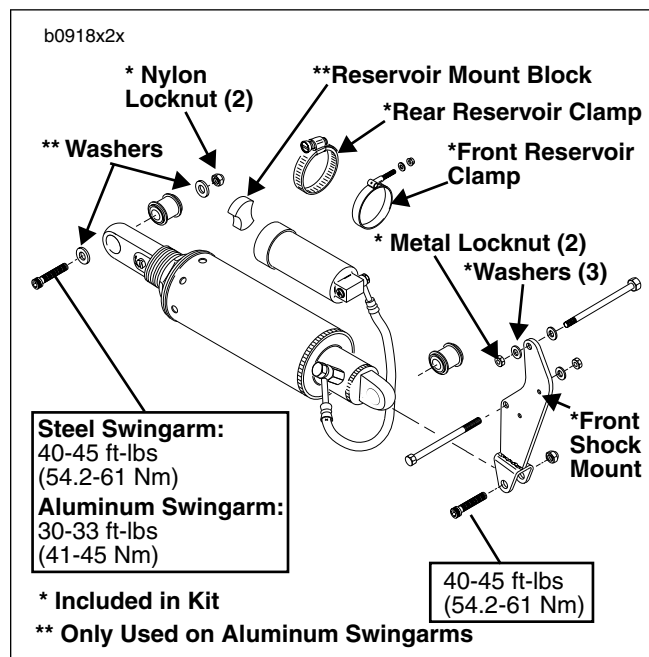

Figure 2. New Shock Absorber Assembly
5. See Figure 2. Use a flex socket and extension to remove locknut and washer from front reservoir clamp. Discard clamp, locknut and washer.
6. See Figure 2. Loosen rear reservoir clamp. Slide reservoir and mount block out of clamp. Remove and discard clamp and mount block.
1. See Figure 2. Install **new** front shock mount to crankcase with two **new** front shock mount bolts, washers, star washer (on 1997 M2, S3/S3T models only) and metal locknuts. Tighten bolts to 30-33 ft-lbs (41-45 Nm). NOTE: Top bolt goes in from the left side, bottom bolt goes in from right side. Bottom bolt does not use washer under bolt head. Star washer (only used on 1997 M2, S3/S3T models) goes on bottom bolt under the washer on the nut side. If exhaust was loosened during front shock mount removal, replace exhaust gaskets and reinstall exhaust. See appropriate Service Manual, Section 2 for instructions.
4. See Figure 2. Position **new** shock absorber from kit in mounting position.